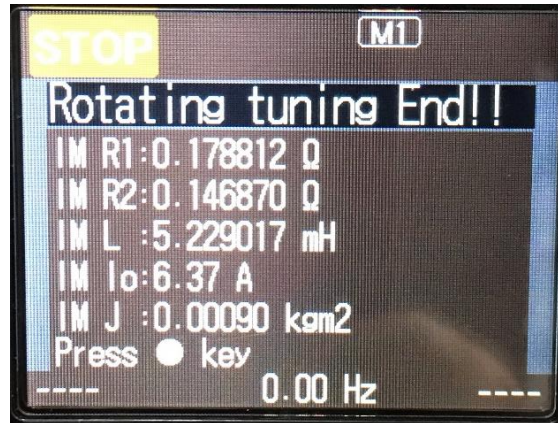

Figure 38: Auto-Tune End
6.6.2.12 **Auto-tune** is complete when the screen shown in *Figure 38* below is displayed. **Press** the SEL key to confirm parameter acquisition.